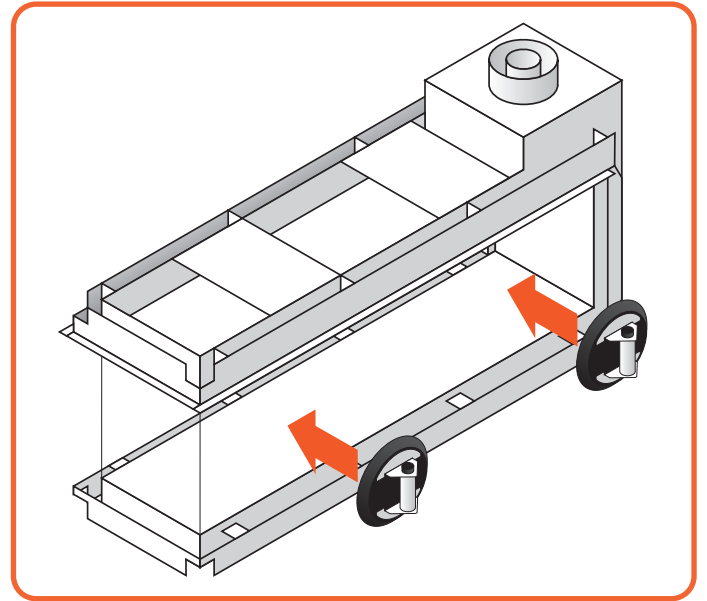

Figure 9.12 | Put on the suction cup
- Put the section cup on the glass and make sure it is properly vacuumed, so it will not come off. (See Figure 9.12)